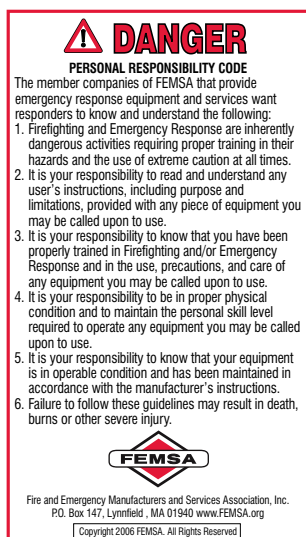

FIG. 1
8. Have you read, do you understand and do you agree to assume the risks and responsibilities listed in the Personal Responsibility Code? See **FIG. 1** and back cover of this Guide.